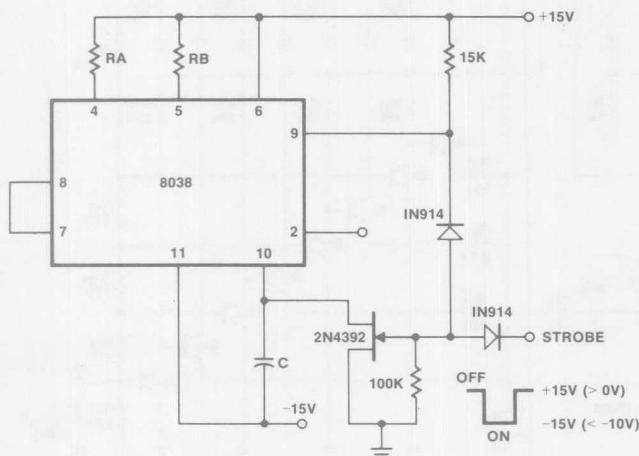

FIGURE 2. STROBE — TONE BURST GENERATOR
**A.** With a dual supply voltage (e.g.,  $\pm 15V$ ) the external capacitor (pin 10) can be shorted to ground so that the sine wave and triangle wave always begin at a zero crossing point. Random switching has a 50/50 chance of starting on a positive or negative slope. A simple AND gate using pin 9 will allow the strobe to act only on one slope or the other, see Figure 2. Using only a single supply, the capacitor (pin 10) can be switched either to V+ or ground to force the comparator to set in either the charge or discharge mode. The disadvantage of this technique is that the beginning cycle of the next burst will be 30% longer than the normal cycle.